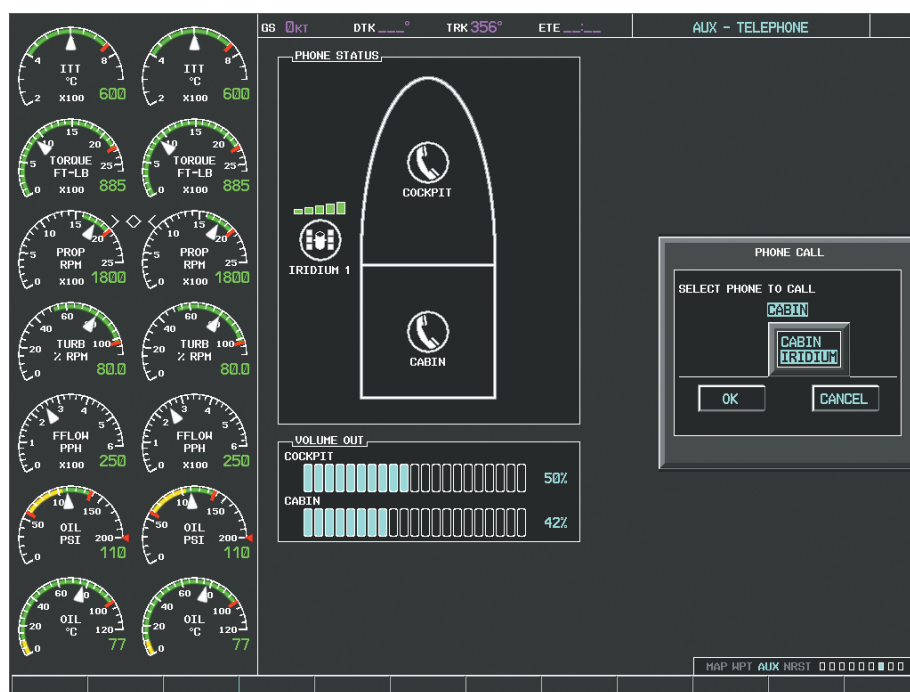

Figure 8-85 Selecting the Iridium Satellite System
- 3) Turn the small **FMS** Knob to select 'IRIDIUM' as seen in Figure 8-85.